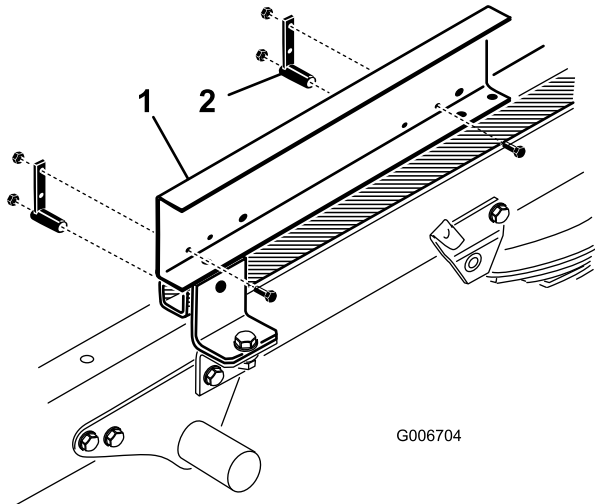

Figure 19
2. Secure lift mounting brackets to lift with (4) 5/16-18 x 1" large flange head capscrews and flangenuts. Position brackets as shown in Figure 19.
4. Secure lift mounting brackets to H.D. Hitch Tubes with (4) 5/16-18 x 2-3/4" large flange head capscrews and flangenuts.